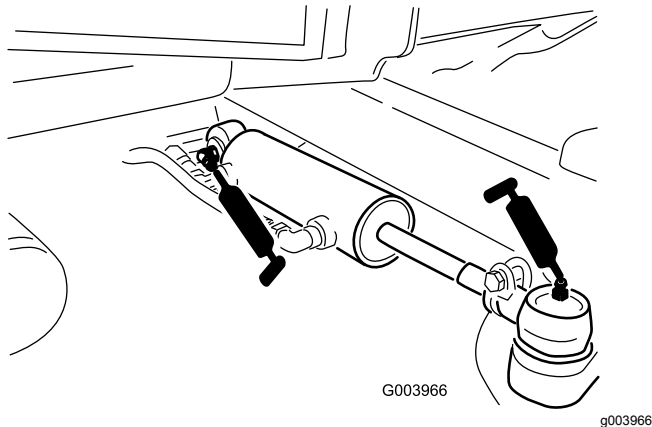

Figure 44
- Steering-cylinder ball joints (2) (Figure 44)